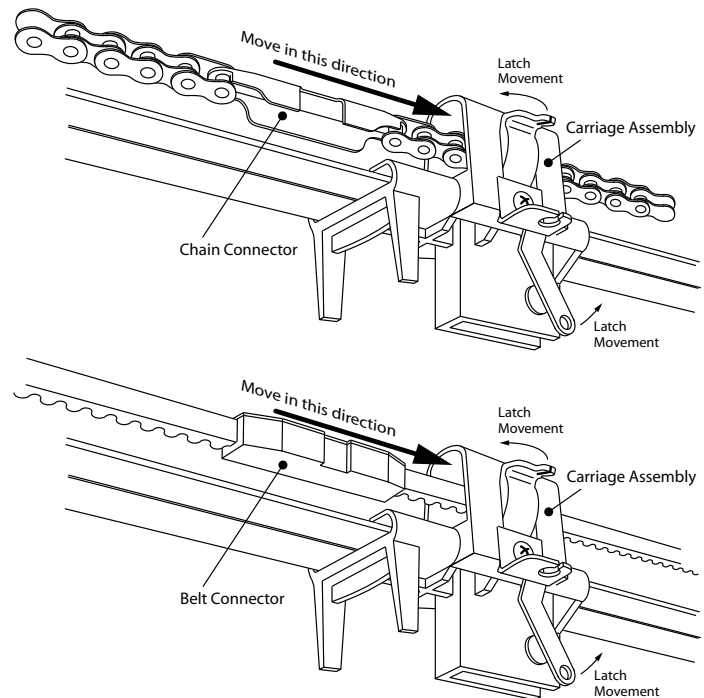

FIG. 6-2 Engage Chain/Belt Connector to Carriage
1. Press and hold the "**Close Travel Limit**" button until the chain or belt connector advances and engages to the Carriage Assembly (FIG 6-2).